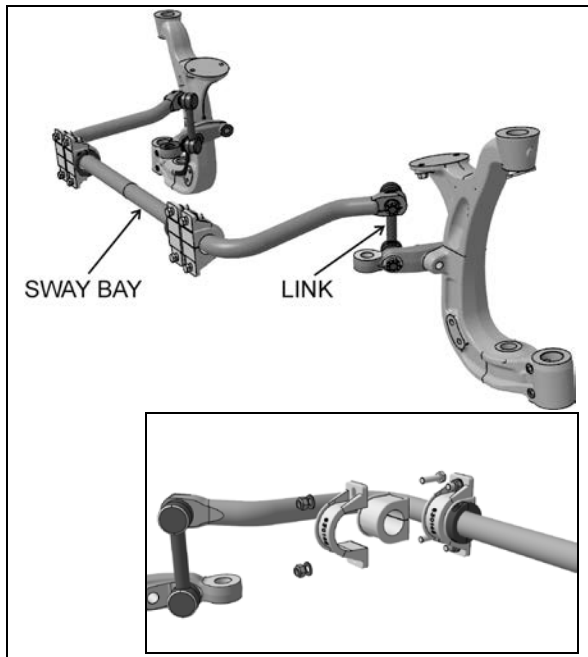

FIGURE 34: SWAY BAR (INDEPENDENT FRONT SUSPENSION)^{16138_C}
5. Install the shock absorber as shown in figure 34 with the mounting stud protruding through the hole in the mounting bracket and the shock absorber eyes over the mounting pins. Install the outer washer.